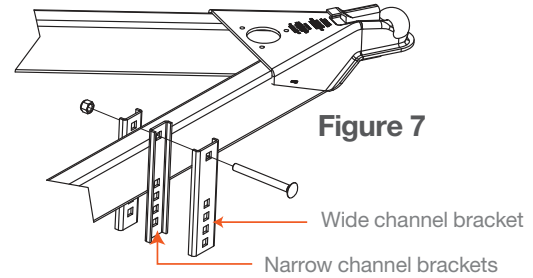

Figure 7
**NOTE:** The wide channel bracket should be installed over the narrow channel as detailed in Figure 7.